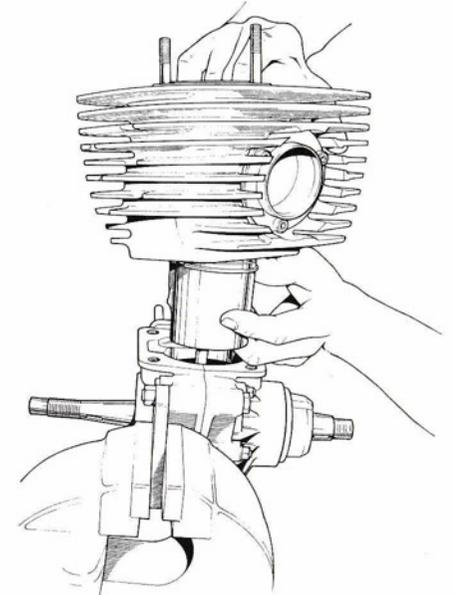

Fig. 28 Positioning cylinder over piston for assembly.
- 8 Position the piston at bottom dead center and offer the cylinder over the piston at 45° to the centerline (see Fig. 28) to keep the ring ends clear of the ports. Tilt the cylinder slightly, away from the top piston ring locating peg so that the complete side of the ring enters the bore, chamfer first. Now level the barrel to enter the remainder of the ring and the second ring. Bring the piston to TDC, revolve the cylinder to its final position and push the cylinder over the piston and down onto the crankcase facing.